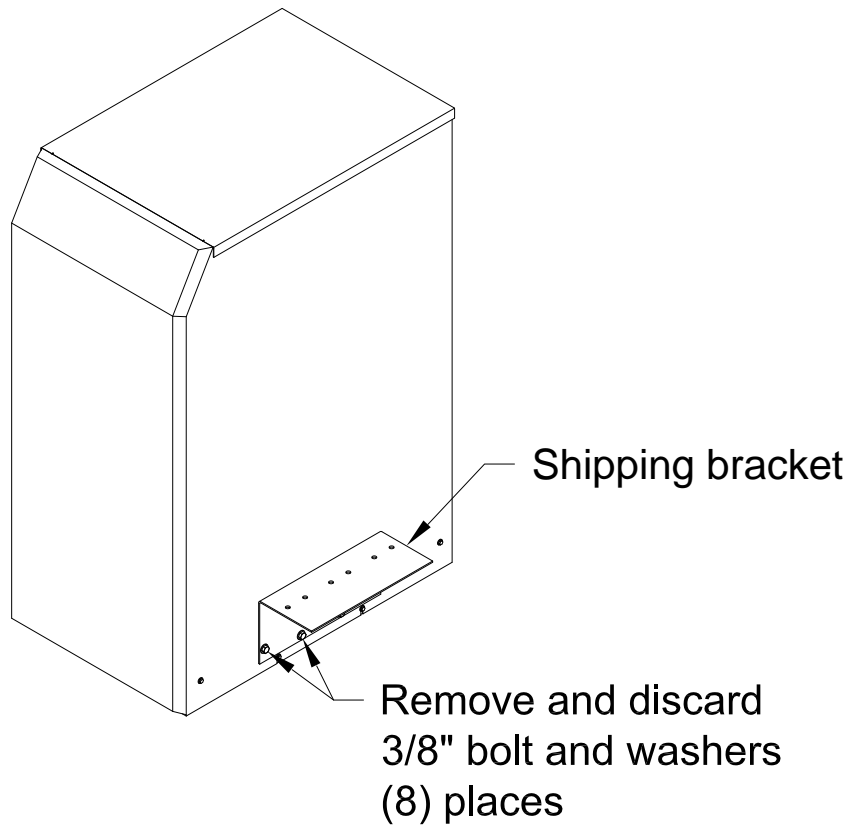

Figure 3 - Shipping Bracket
8. Remove the (8) 3/8" bolts mounting the shipping brackets to the cabinet and remove the brackets (see figure 3).